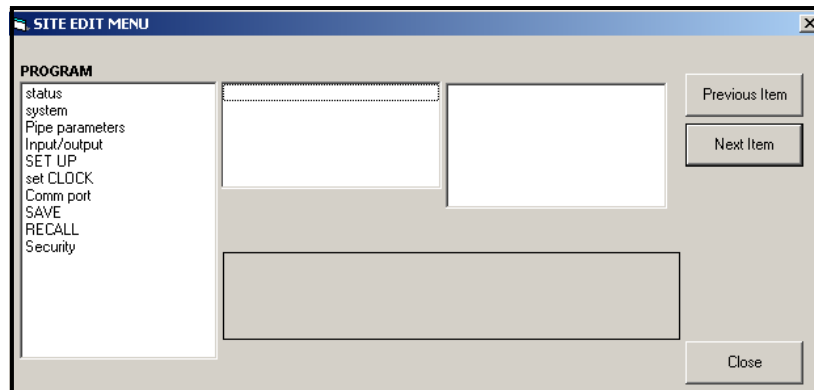

Figure 36: The *Site Edit Menu* Window
5. To open a particular menu, double-click on that menu on the tree. For example, if you double-click on the Site Edit Menu, a window opens similar to *Figure 36* below.